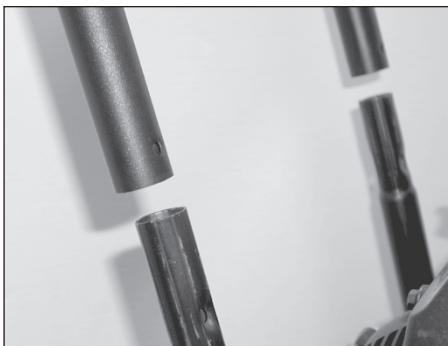

Figure 1 - Assemble Handle
- Slide the handle assembly over the lower legs of the cart base. Use the standard nut and bolt to secure the right rear leg. See Figure 1.